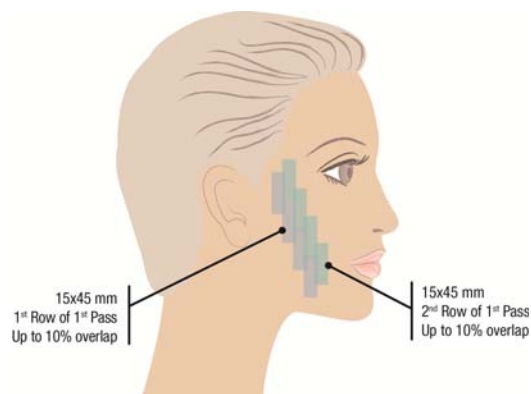

Figure 1
- Treatment is started near the ear (the right side of the face is pictured in this example). A series of pulses are delivered, with the operator moving the handpiece with up to a 10% overlap over the previously treated area after each pulse. The first row of pulses moves along the jawline and ends mid-chin (Figure 1). The next row of pulses begins in front of the ear just above and slightly overlapping the first row of pulses. Rows of pulses are continued until the entire right cheek including the right upper lip and right chin have been treated. Turn the handpiece to a horizontal orientation if necessary to comfortably treat the lip and chin.